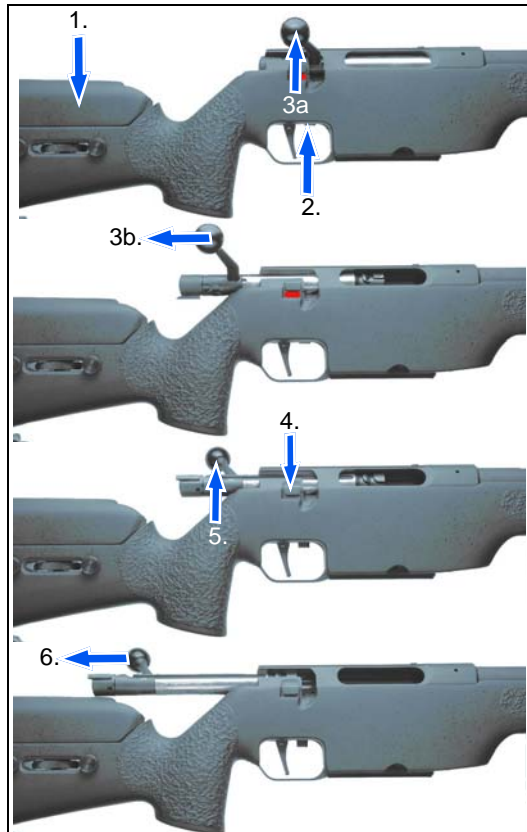

Fig. 5, Removing the bolt
4. Insert the cocked bolt into the receiver by rotating it slightly. The removal position (bolt handle turned to the left by 90°, see Fig. 5/5.+6.) is the best position to install the bolt.
5. Rotate the bolt until the bolt handle slides into the guideway of the receiver (see Fig. 5/3b.).